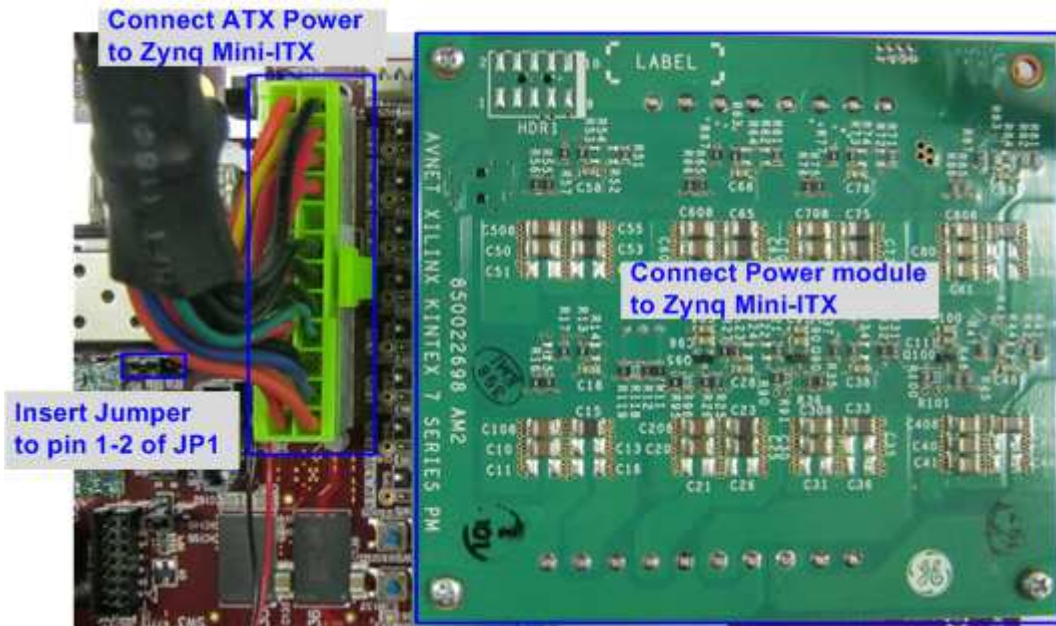

Figure 2-4 The power module installed onto the board
- ii. As shown in Figure 2-4, install a jumper on JP1 pins 1-2 to enable JTAG chain, install the power module onto the board via J8, J9, J10 connectors, and connect ATX power cable to FPGA board via P2 connector.